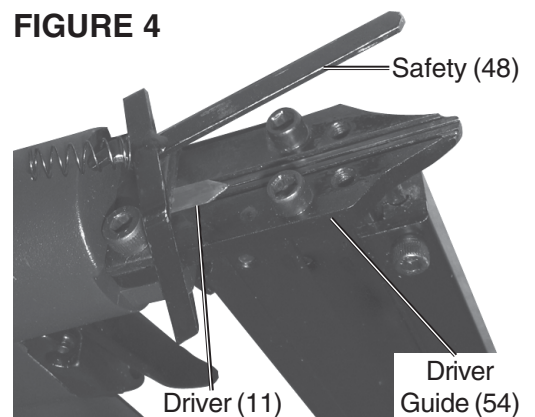

FIGURE 4
5. Inspect the **Driver (11)** for bends or breakage - see location in *Figure 4*. If it is damaged, do not use the tool until it is repaired by a qualified technician.